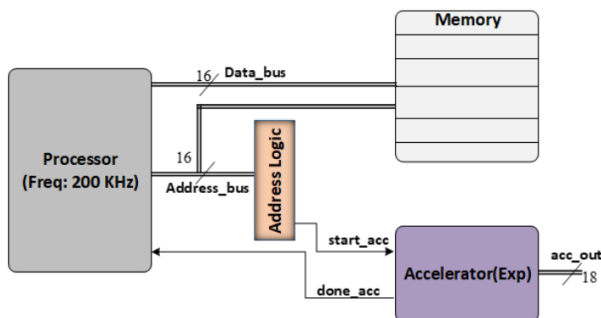

Fig. 1 Block diagram of a typical integrated circuit
A System on Chip (SoC) is an integrated circuit that combines multiple components, including a processor, memory, I/O ports, and accelerators, all on a single chip (see Figure 1). The main processor handles various computational tasks, while accelerators are specialized units designed to execute specific tasks quickly and efficiently.
- The CPU delegates specific tasks, such as computing exponential values, to the accelerator (see Figure 1).
The CPU starts the accelerator via an address logic that decodes the address bus and triggers the "start" signal (see Figure 1).